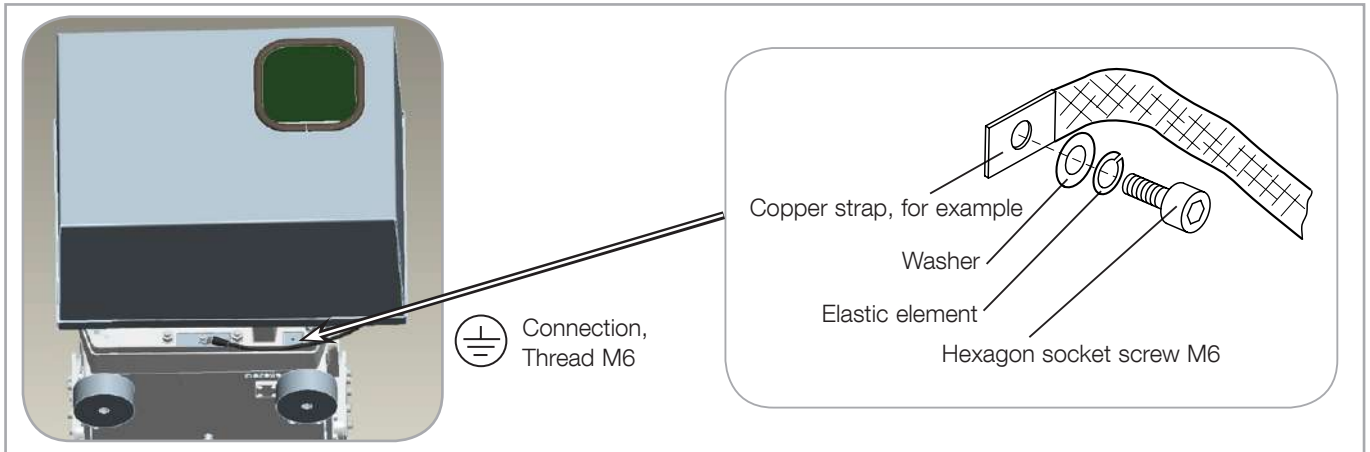

Fig. 3.15 Establishing the potential equalisation at the pump casing
- Keep the ground wires as short as possible. **The frequency converter produces leakage currents** (typically less than 10 mA). In the case of unbalanced mains power supplies, the leakage current may exceed 10 mA. In this case the protective ground conductor must exhibit a cross-section of at least 10 mm². Or connect a further protective ground conductor having at least the same cross-section as the connection cable. A connection point is provided, see Fig. 3.15.
Connect the potential equalisation conductor as depicted in Fig. 3.15.